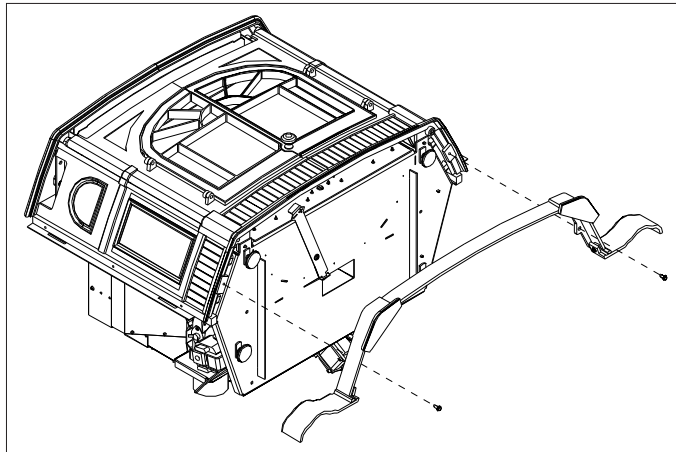

Figure 10: Installing Cast Skirt.
3. Using two (2) screws provided attach the cast skirt to the bottom of the unit as shown in Figure 10.